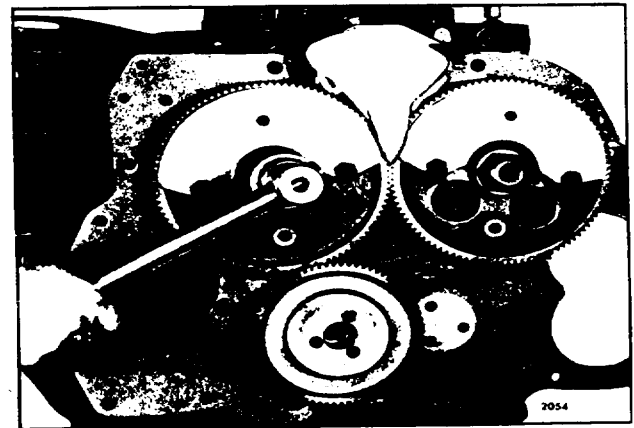

Fig. 1. - Removing or Installing Nut on Camshaft or Balance Shaft
7. Wedge a clean rag between the gears as shown in Fig. 1; then, remove the nuts from each end of both shafts with a socket wrench.